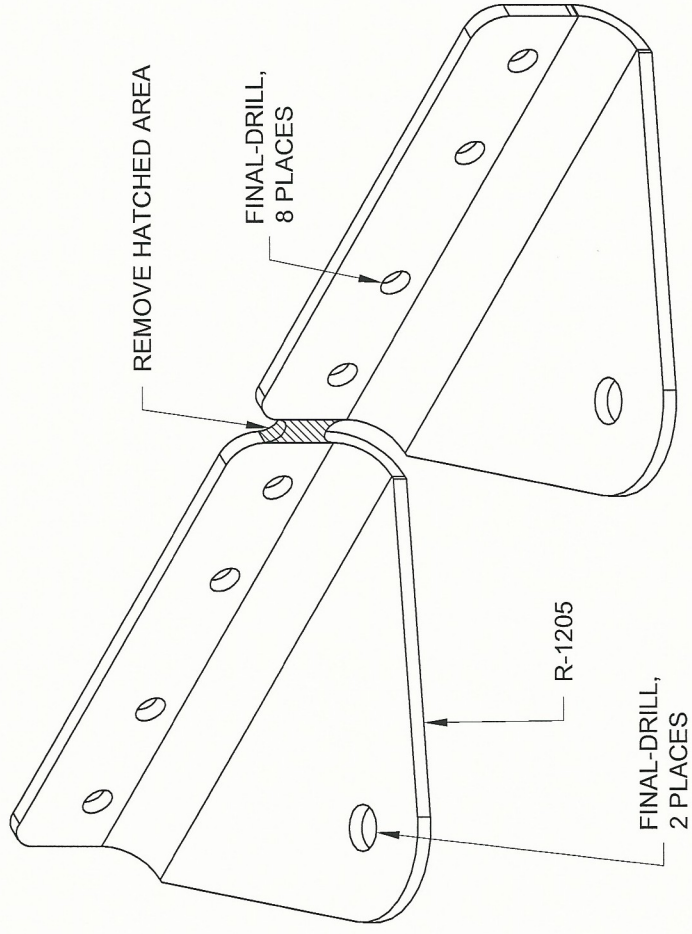

FIGURE 2:
- Step 4: Final-Drill #30 the 1/8 inch holes in the R-1205 Hinge Brackets as called out in Figure 2.
- Step 5: Final-Drill #12 the 3/16 inch holes in the R-1205 Hinge Brackets as called out in Figure 2.
- Step 6: Separate the R-1205 Hinge Brackets by removing the material shown hatched in Figure 2.